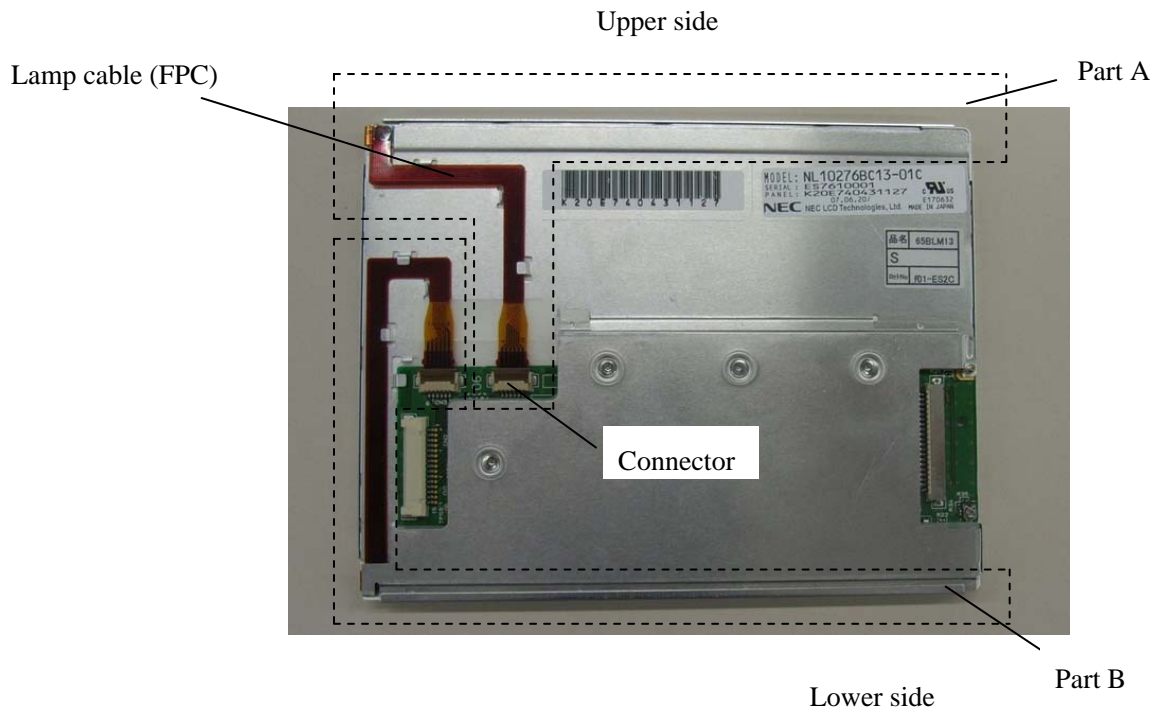

Fig.1: Rear side of the LCD module rear side
- (1) Put on the fingerstalls and the grounding band.
- (2) Turn the ionizer switch on.
- (3) The LCD module should be kept turned off, and wait the lamp holder gets cool down enough.
- (4) Replacement of the upper side lamp holder. (Fig.1, Part A)
- (5) Replace the lower side lamp holder (Fig.1, Part B) same as upper side.